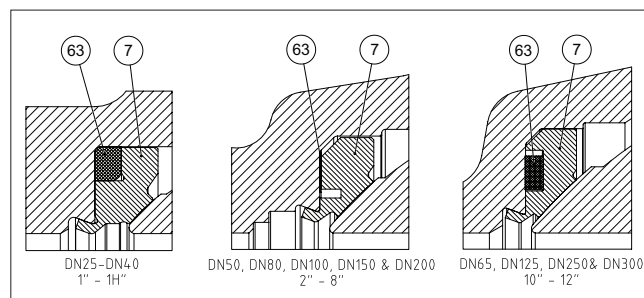

Fig. 19 P-, V- and C-seats
- **P-, V- C- and S-seats:** Place the back seal (63) in the ball seat (7); see Figures 19 and 20. Place the seat in the body (1).